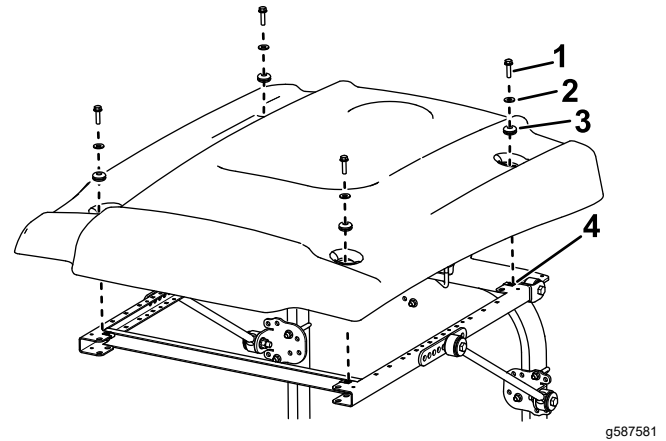

Figure 28
15. While aligning the mounting holes, position the sunshade onto the frame as shown in Figure 28.
16. Loosely mount each corner of the sunshade to the frame with a flange-head bolt (5/16 x 1 inch), a small washer, and a grommet (Figure 28).